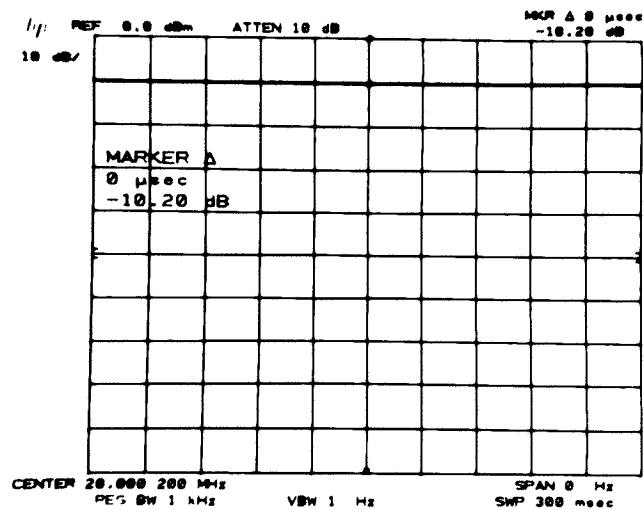

Figure 4-15. Scale Fidelity Measurement
7. Press **MARKER** **Δ** . Step the step attenuator from 0 dB to 90 dB, recording the **MARKER Δ** amplitude (a negative value) at each step in column 2 of Table 4-13. Allow several sweeps after each step for the video filtered trace to reach its final amplitude (see Figure 4-15).